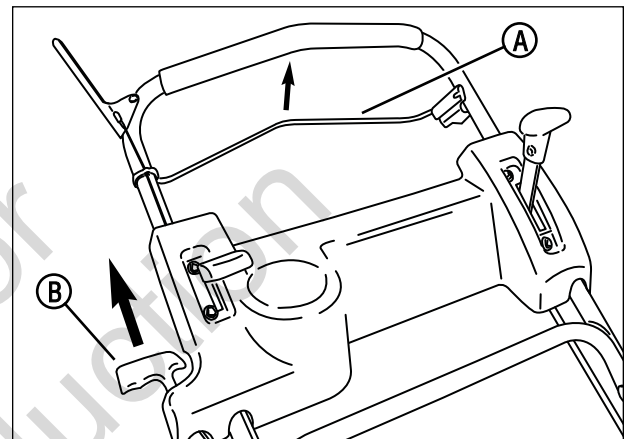

Figure 3: Starting the mower
1. Pull the blade control **(A, Figure 3)** against the handle.